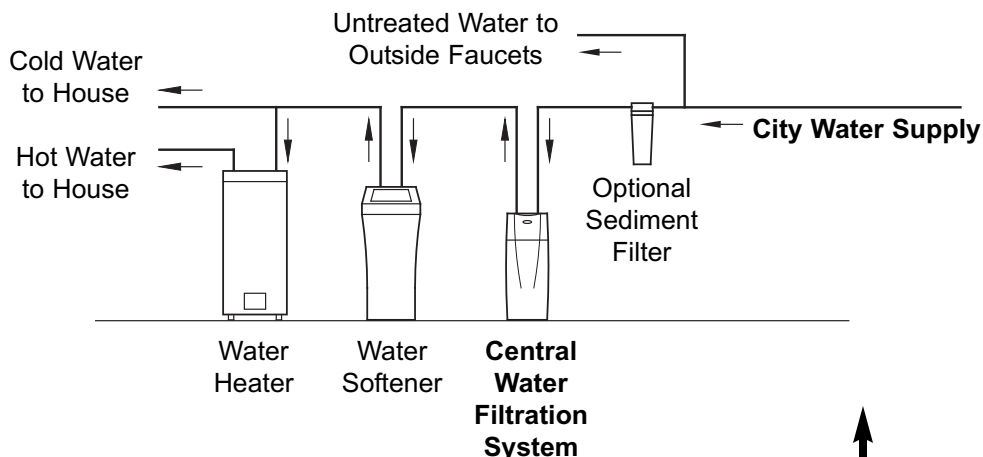
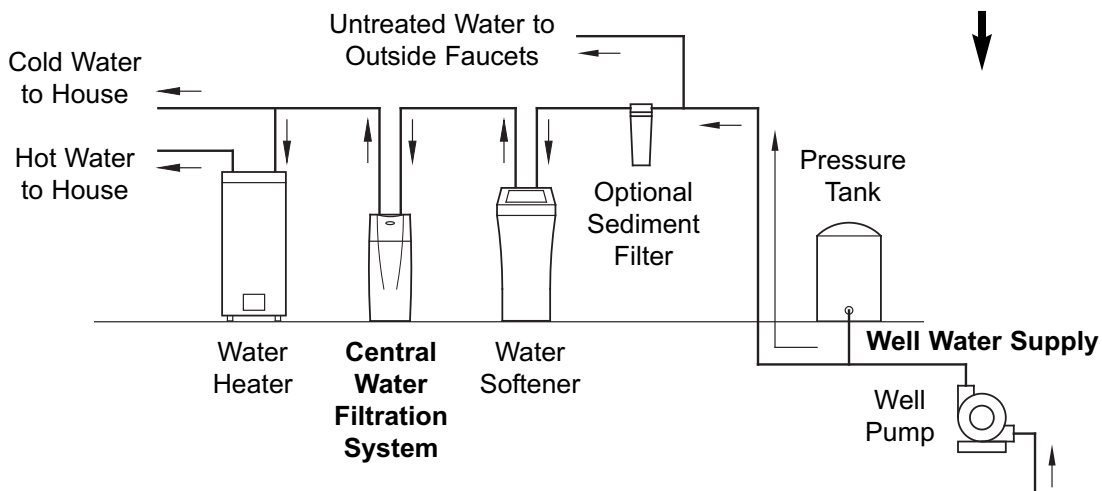

FIG. 1A
FIG. 1B
is being used (See Figure 1A). If the home has well water, reverse the order of the Central Water Filtration System and the water softener (See Figure 1B).
- Do not install the Central Water Filtration System on a hot water line (See Figures 1A & 1B).